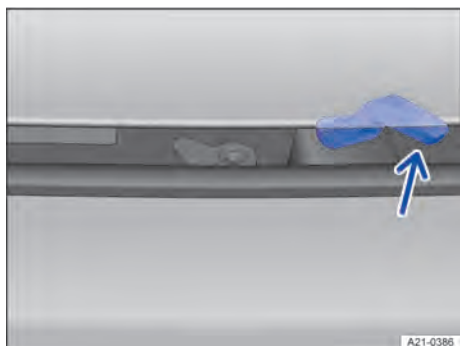

Fig. 204 Above the radiator grille: bonnet opening lever.
3. Lift the bonnet slightly and at the same time press the opening lever in the direction of the arrow → Fig. 204 to open the bonnet fully.